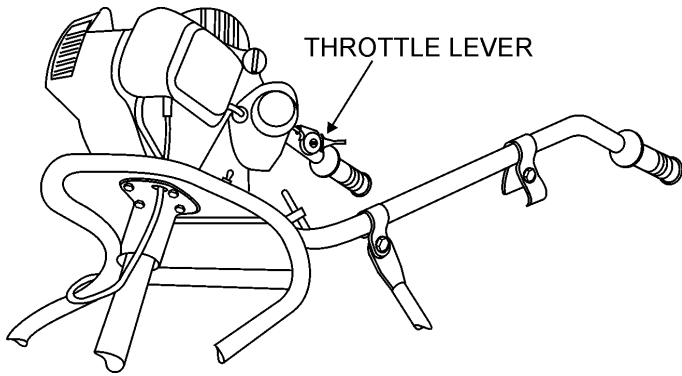

Figure 15. Throttle Lever
9. To begin screeding move the engine throttle lever (Figure 15) midway between idle and full throttle. Notice that the DuoScreed's vibration will cause the blade to sink into the concrete base until it touches the top of the grade pins
2. Move the engine **throttle lever** (Figure 15) to the low speed position (idle).